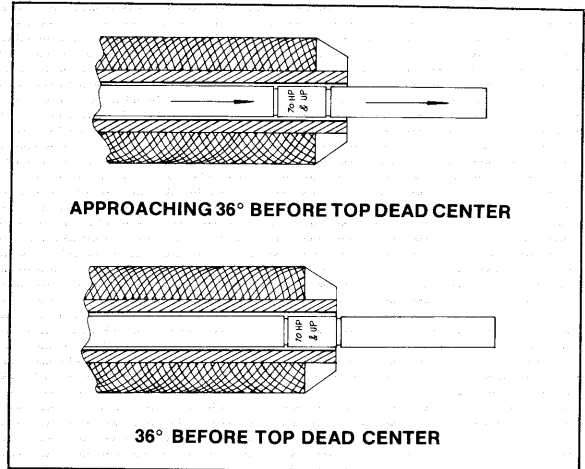

Figure 5—Establishing 36° Before Top Dead Center
- F. Apply slight pressure to end of rod with finger and turn crankshaft clockwise in direction of engine rotation until outer line of rod lines up with edge of barrel as shown in figure 5.